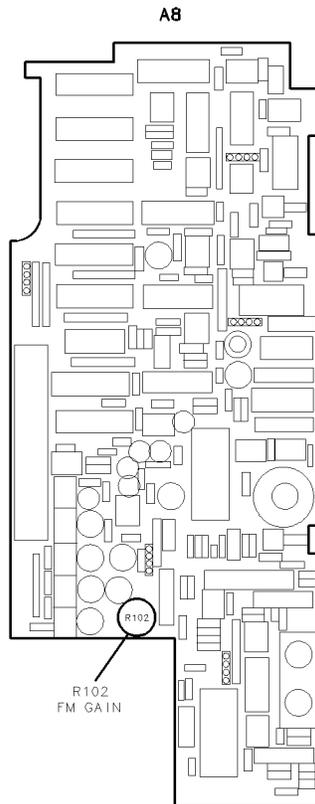

Figure 6-34. Locations for Adjustment 19. FM Gain
3. The program sets the HP 70900B local oscillator source's start frequency correction DAC to a value equal to the error signal on the switchable FM coil driver calibrator line. These lines are toggled, which shifts the YTO output frequency. The program prompts the user to adjust A8 frequency control (R102) for a YTO output frequency deviation of less than 100 kHz. The adjustment is performed for three spectrum analyzer spans, 200 MHz, 20 MHz, and 1 MHz. See Figure 6-34 for the location of A8 frequency control (R102).